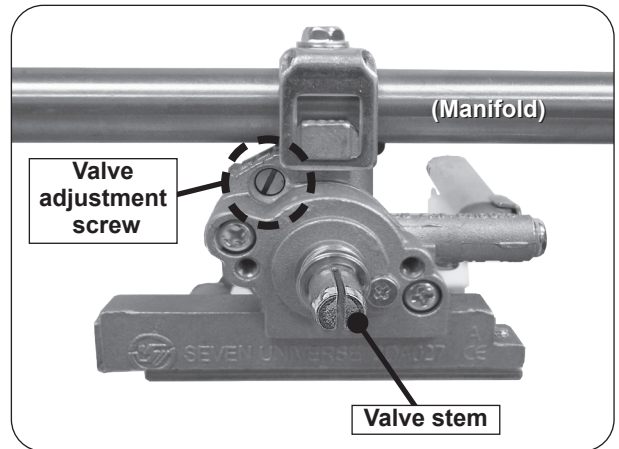

Fig. 42-1 Valve adjustment screw location
5. Locate the FLATHEAD adjustment screw found above the valve stem and below the manifold (see Fig. 42-1).